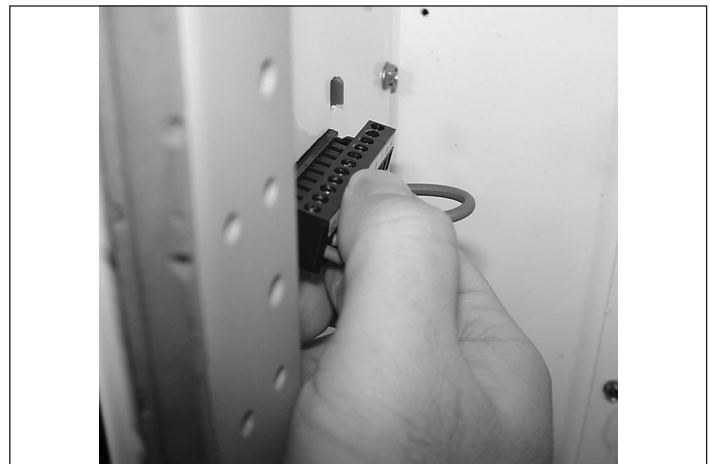

FIGURE 12. DISENGAGING PULL-APART TERMINAL BLOCKS
3. Open the vertical wireway door to remove any plug-in terminal blocks that might be connected to the unit (**Figure 12**). Please look for any additional wiring that might be terminated inside the unit. These connections will need to be removed prior to removal of the unit from the structure.